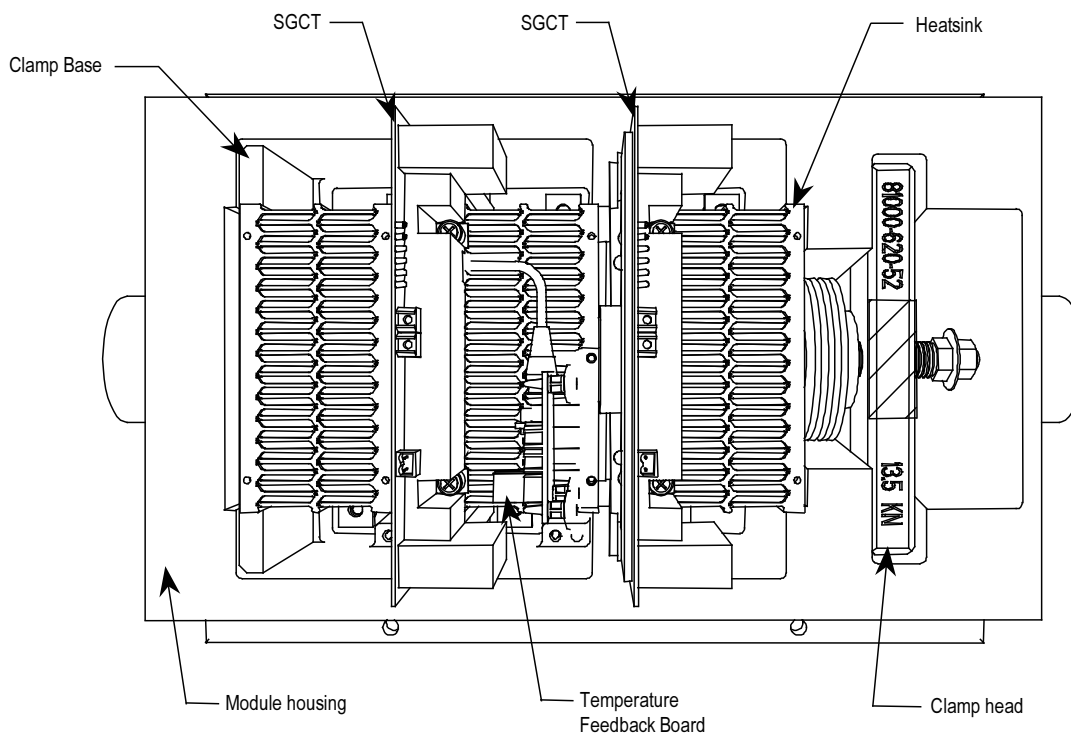

Figure 5.11 – 2-Device PowerCage
4. Remove the device (SGCT) that is secured to the heatsink with the thermal sensor. (Refer to Figure 5.11, 5.12, 5.13, 5.16 or 5.17).